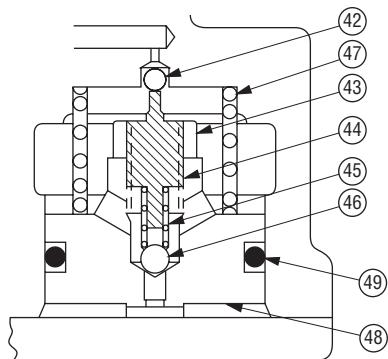

Figure A4 ③ ⑦
Low-pressure relief valve is set too low.	See "Low-Pressure Relief Setting" and Figure A4 in the "Service" section of this manual.
Valve seat is damaged.	See "Low-Pressure Relief Setting" and Figure A4 in the "Service" section of this manual. Clean and inspect items 42–49. Replace parts as necessary.
Refer to Figure A4. Lightly bottom the stem (44) on the ball (46). Then back out the stem 3-1/2 turns. Tighten nut (43). The resulting pressure setting should be approximately 19.3 bar (280 psi).